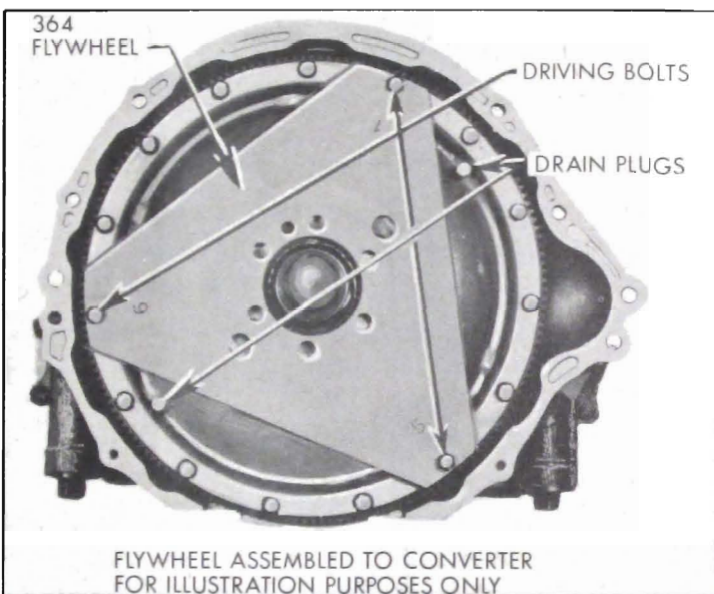

Figure 5-106—Location of Driving Bolt Holes
17. Refer to figure 5-106 to determine which three bolt holes to leave empty for later installation of flywheel to pump driving bolts. Flywheel to pump driving bolts are 300M steel and are identified as such by six radial marks on the bolt head. See figure 5-106.